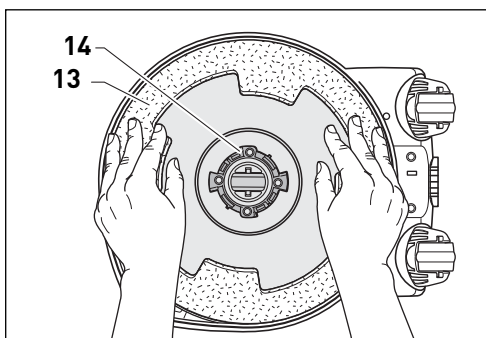

Figure 1
Fit the floor pad (13) to the pad retainer (14), using the notches as a guide for correct position. Press the pad down onto the pad retainer (14) until it locks in place. See figure 1.